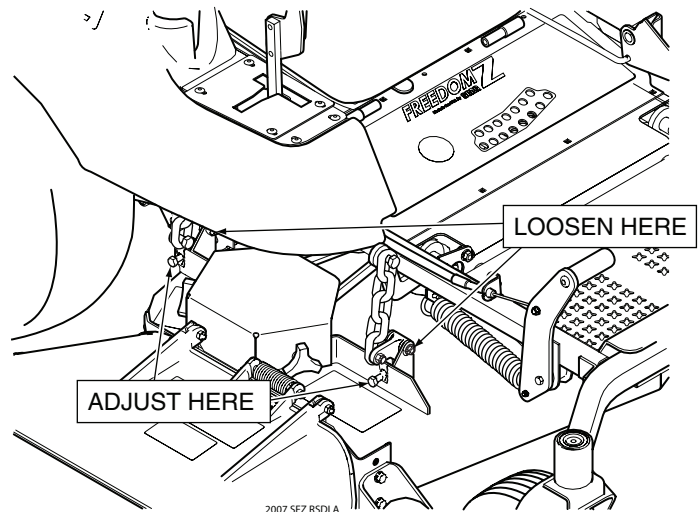

Figure 6-7. Cutter Deck Height Adjustment
3. Loosen the elastic stop nuts securing the deck level links on both sides of the cutter deck. See Figure 6-7.